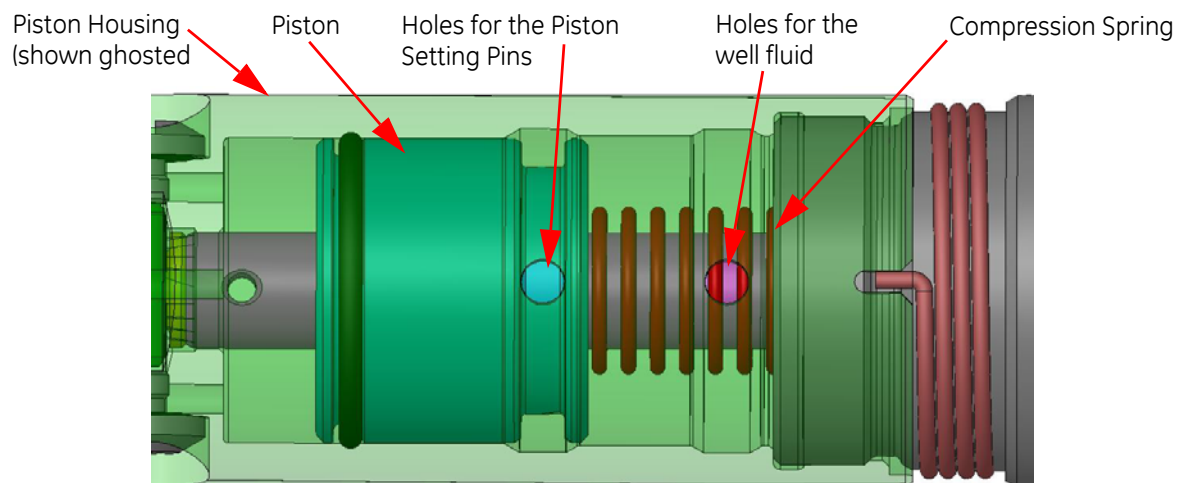

Figure D-2 Identification of the Piston alignment holes with the Piston in the correct position
- 2 With reference to Figure D-2, make sure the Piston (item 4) is located correctly inside the Piston Housing (item 12) and then continue with Step 3.